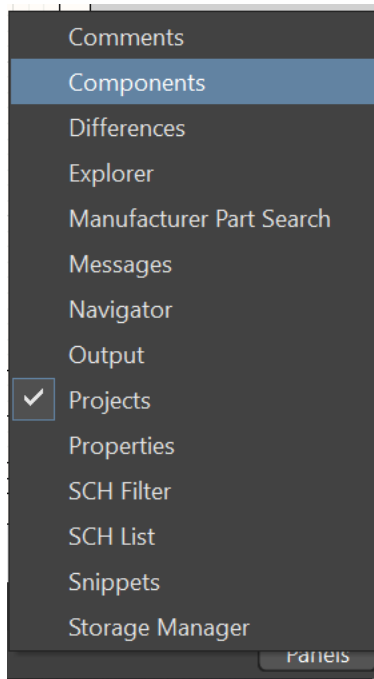

Figure 7: Navigating to Components window
1. Go to the bottom right corner of the screen and click **Panels** → **Components**, as shown in Figure 7.